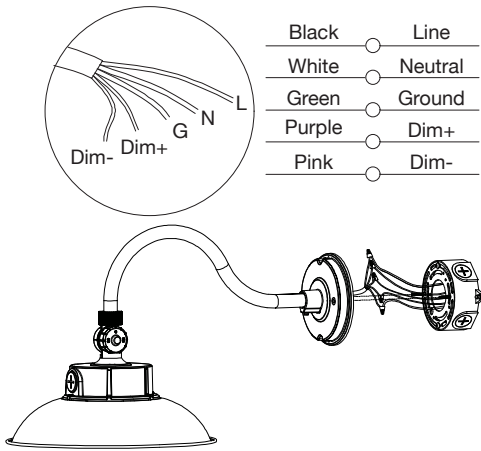

Fig 7
3. Connect the corresponding terminals according to the wiring diagram, connect L, N, and ground wires correctly. (Fig 7)